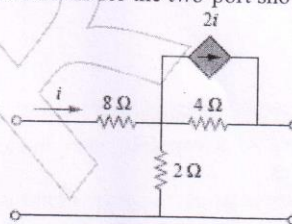

Figure: 2
- 2.a) Determine the  $y$  parameters for the two-port shown in figure 2.